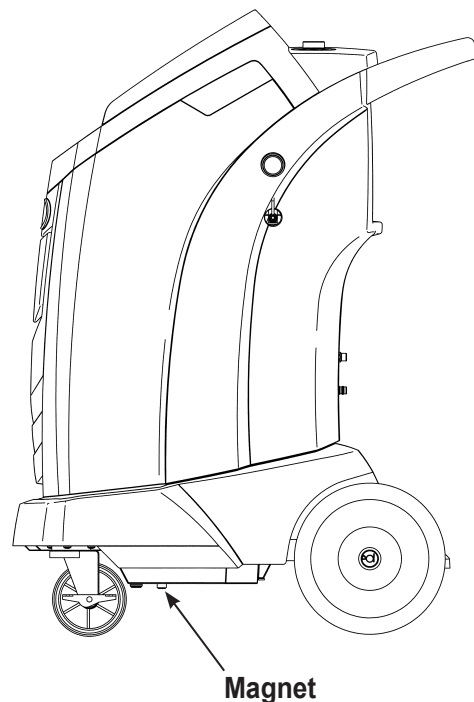

Figure 9
1. Refer to Figure 9, and verify the magnet on the bottom of the machine is clean.